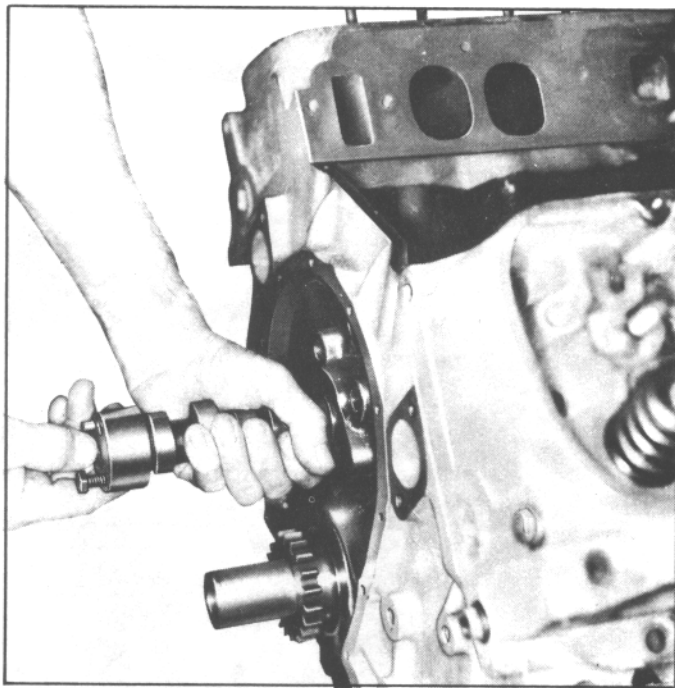

Fig. 62. Installing Camshaft
1. Install two 5/16-18 bolts in camshaft bolt holes, then lubricate camshaft journals with engine oil and install camshaft, be careful not to damage bearings (Fig. 62). Remove the two 5/16-18 bolts.